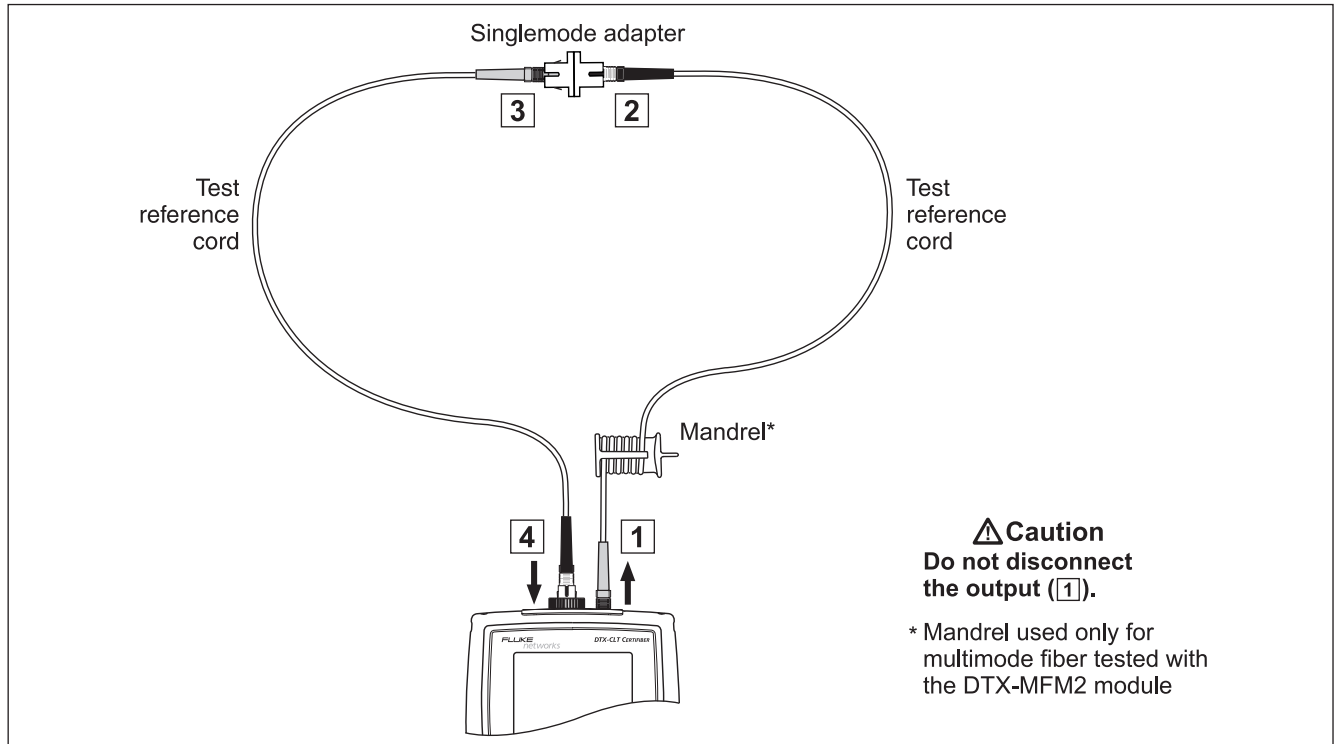

Figure 18. Testing the Test Reference Cords in Loopback Mode
- 6 Make the connections shown in Figure 18.